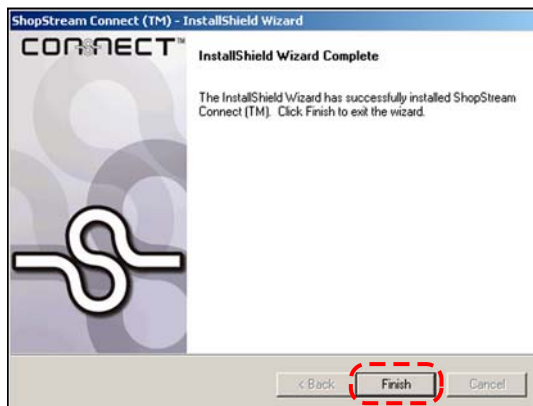

Figure C-6 Sample Complete screen
- 6. When the Complete screen displays, select **Finish** to close the Install Wizard (Figure C-6).